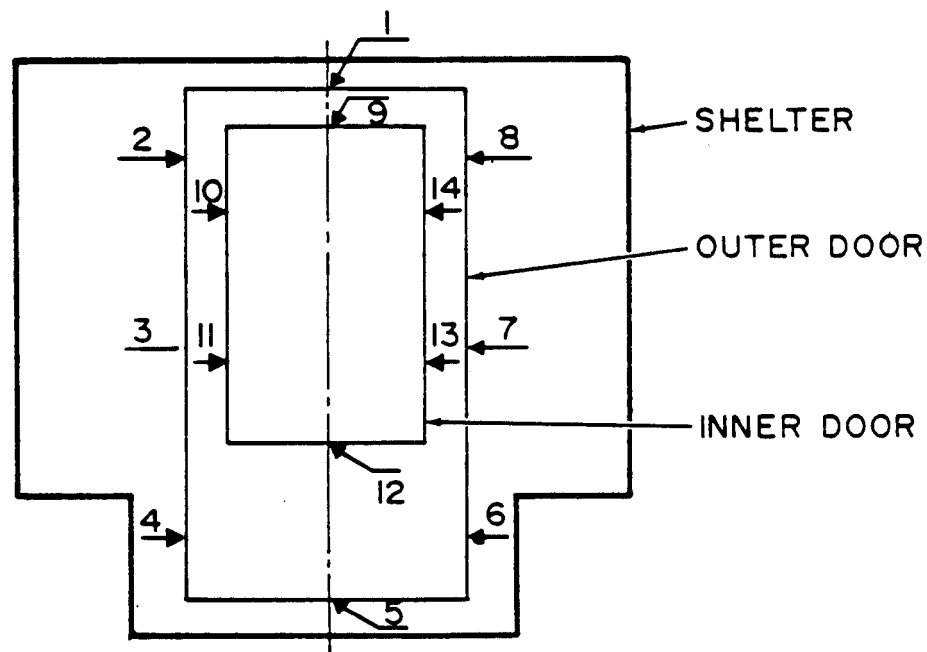
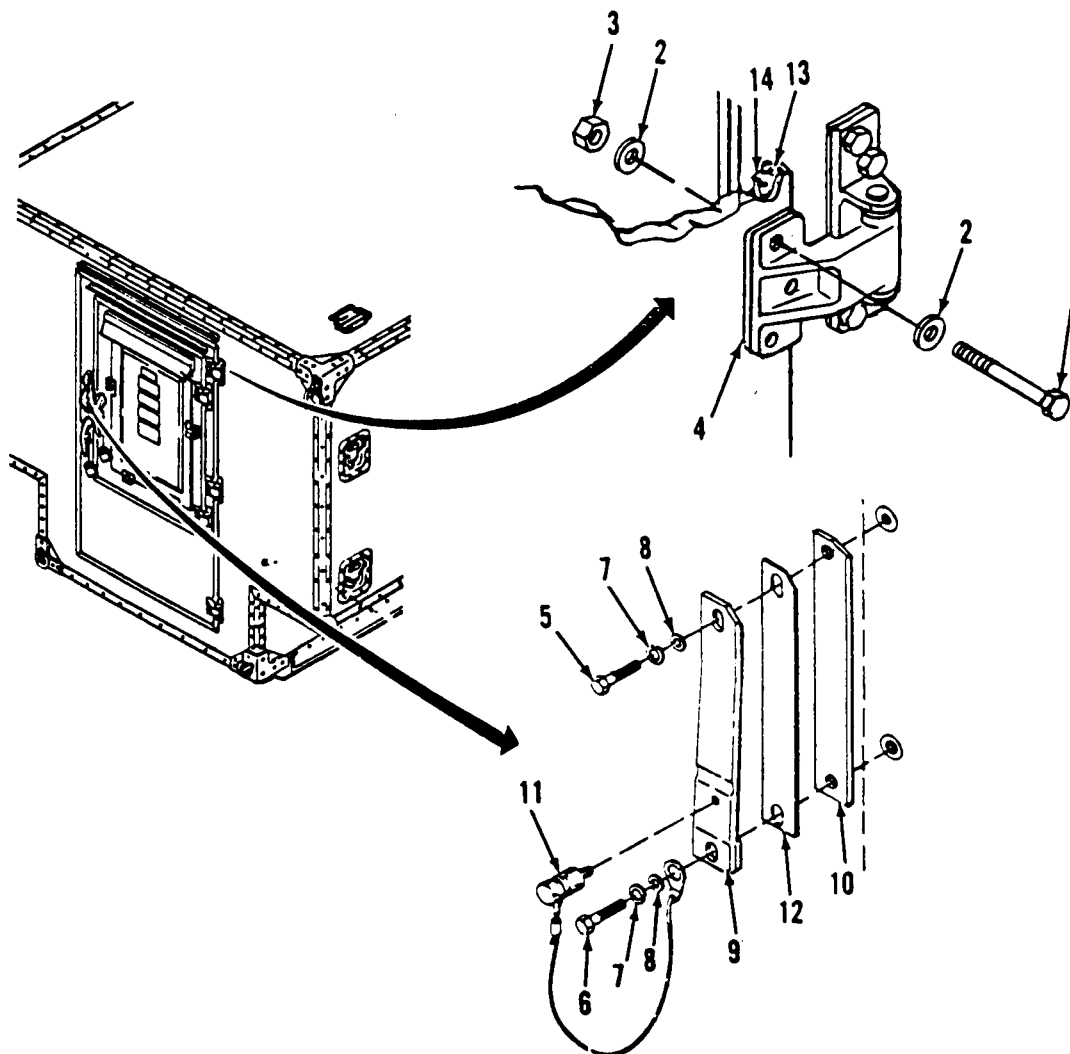

Figure 3-19. Typical Locations for Door Gasket Testing.
Figure 3-20. Weather Gasket and Seal Pressure Adjustment.
a. Inspect. (Figure 3-20)
- (1) Inspect the door assembly (2) for external damage.
- (2) Inspect the silicone weather gasket (15) for tightness.
- (3) Inspect the RFI/EMI gasket for wear and secure mounting.
b. Test. (Figure 3-19) Test of the door assembly consists of testing for proper seal pressure on the silicone weather gasket. The procedure listed below shall be performed at the center top and bottom of the door, and three places along each side of the door, as shown in Figure 3-19.
- (1) Place a single piece of paper (0.005 inches maximum thickness by 2-1/2 inches wide) between the silicone weather gasket and its bearing surface.
- (2) Close and lock the door.
c . Adjust. (Figure 3-20) Adjustment to increase the seal pressure on the silicone weather gasket can be made on the hinged side of the door and on the roller latch side of the door, as described in the following paragraphs:
d. **Replace.** (Figure 3-20) To replace the RFI/EMI gasket (13), remove gasket from track and clean track of any dirt. Place new gasket over track and snap in place. To replace the silicone weather gasket (14), proceed as follows
- (1) Remove gasket (14) and clean track from adhesive residue.
- (2) Apply sealer in track groove all around door and snap new gasket in place in track on door.